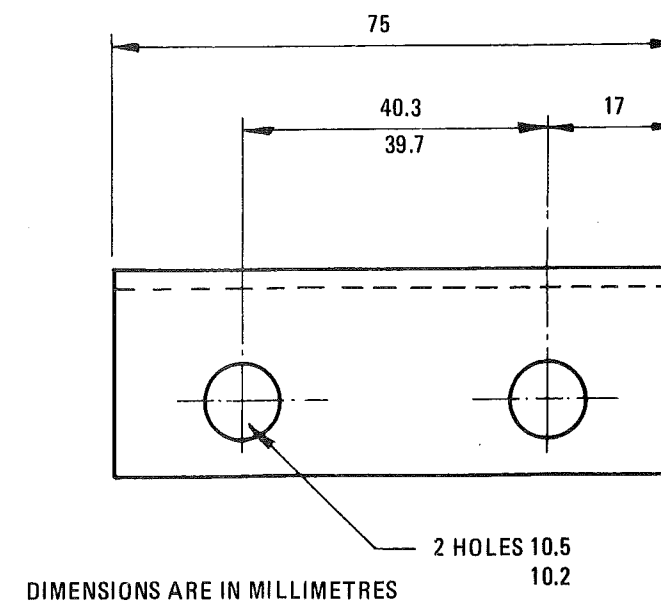

FIG 4 - REINFORCING PLATE MANUFACTURING DETAILS
- 11. In the event that similar modifications are required in the future, modification plate manufacturing details are shown in Fig 4.